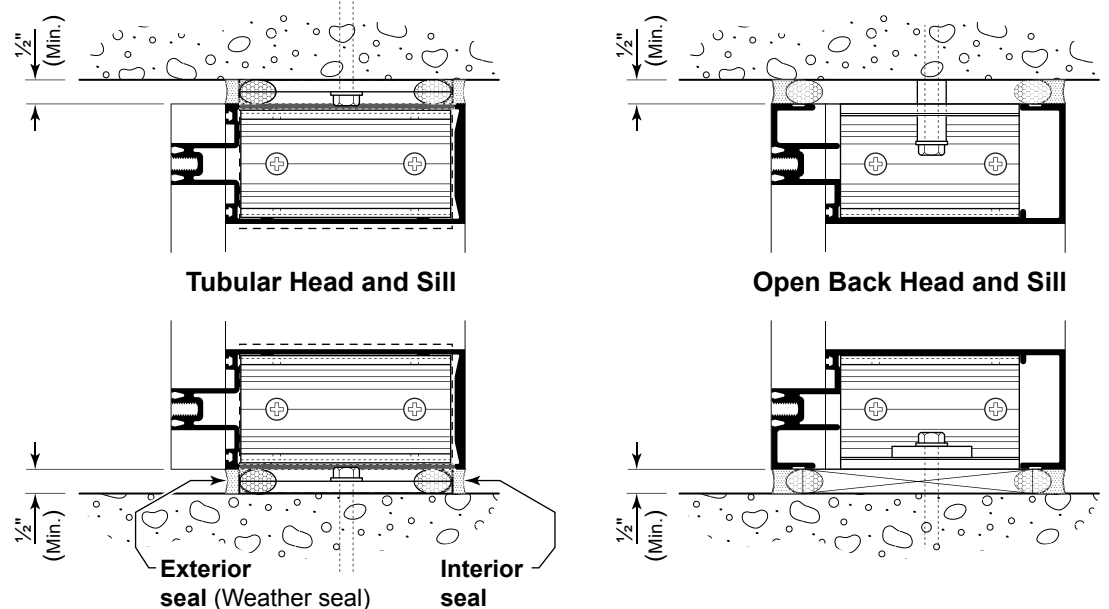

Fig. 41.2
- B. Apply sealant around the perimeter of the frame and tool the sealant. See **Fig. 41.1** and **Fig. 41.2**.